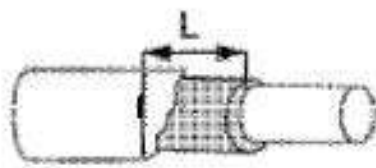

Figure 102
- c. Inter-tape or frayed insulation exposure-"L" (Figure 102) exceeds 0.039 in. (1 mm) or 50% of the insulation outside diameter whichever is greater.